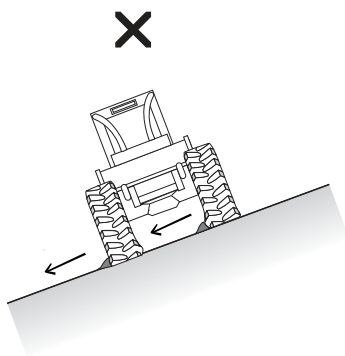

Figure 31. Avoid skidding on side slopes to reduce slippage that can damage or break roots, or tear the forest floor.
- Avoid skidding on side slopes. Slippage can occur easily on side slopes, and can damage or break roots, or displace the protective forest floor exposing mineral soil to erosion (Figure 31).